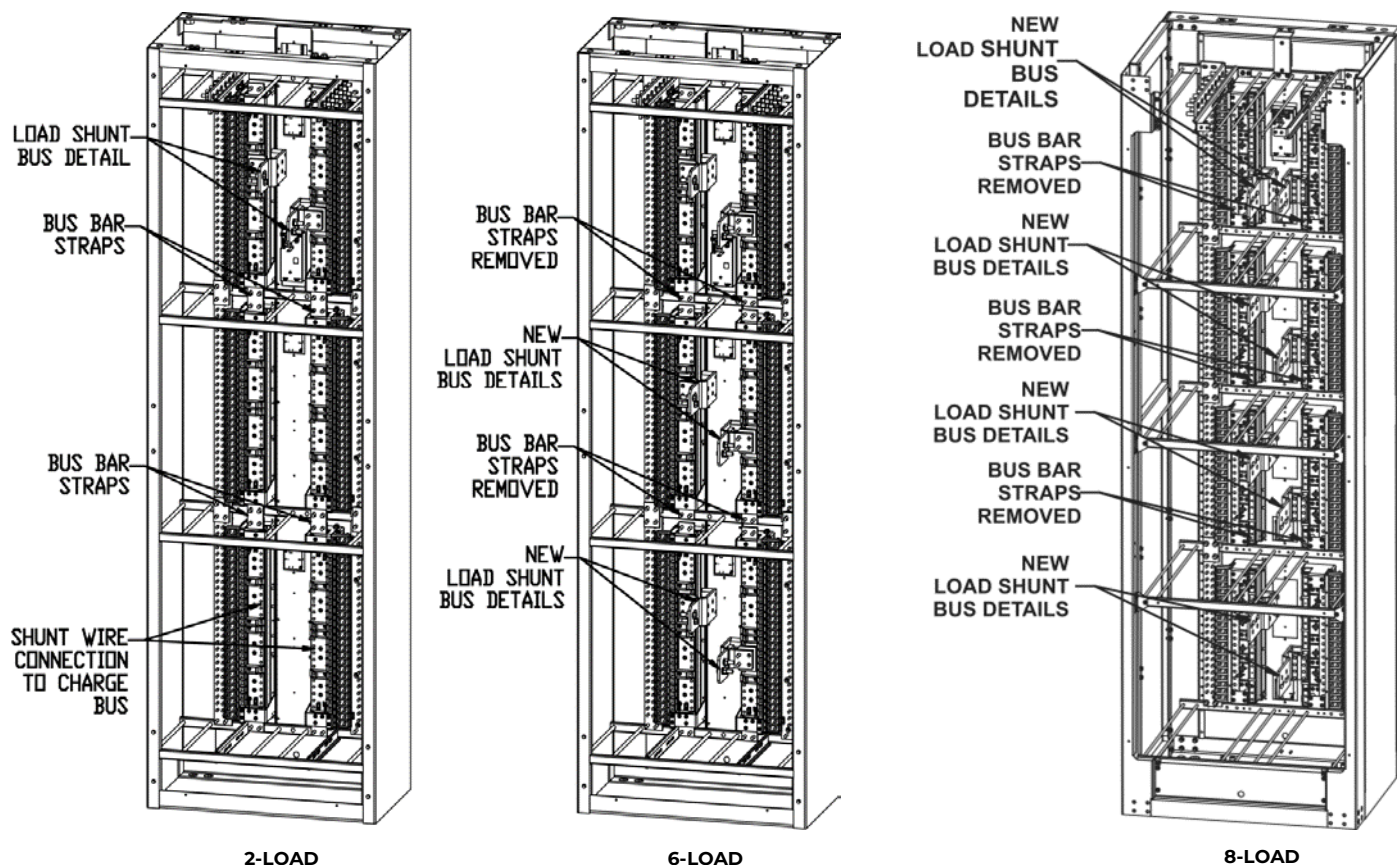

Figure 23 2-Load to 6 or 8-Load Conversion
Install load shunt bus assembly to the charge bus as shown in Figure 23. Connect (2) red glastic standoffs to panel. Attach shunt detail to panels charge bus with 5/16 hardware provided and ½” socket (Torque to 135 in-lb) and attach to standoffs with 1/4-20 screws provided and 7/16” socket (Torque to 65 in-lb).